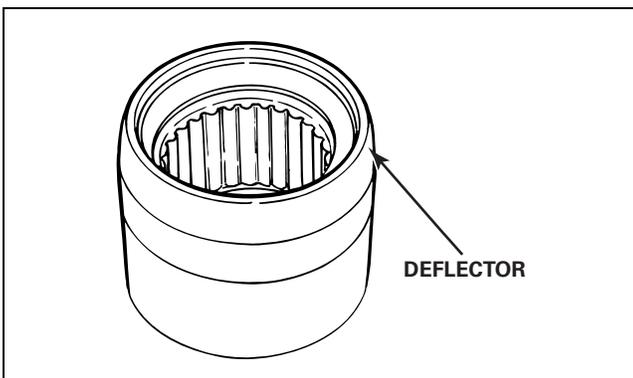

Figure 4.32
3. Verify that the plastic deflector is attached to the round bushings. Figure 4.32.